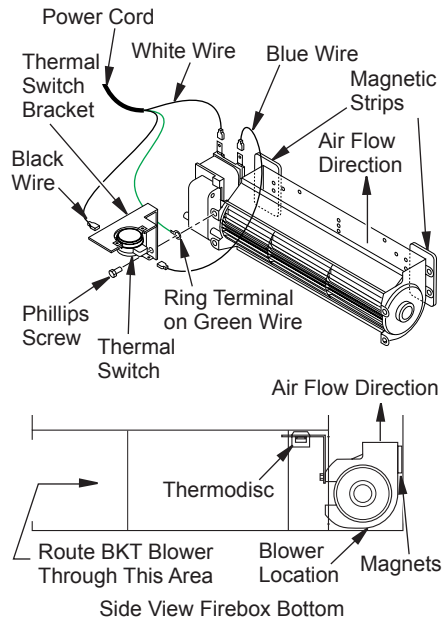

Figure 29 - Blower Model BKT
- Place green ground wire with ring terminal between bottom hole on thermal switch bracket and top ear hole on blower assembly. Insert the Phillips screw into all three pieces and tighten securely (see Figure 29).
- Place blower against lower rear wall of firebox outer wrapper with exhaust port directed upward and thermodisc positioned up near fireplace bottom. Thermodisc must be oriented near fireplace bottom as shown in Figure 29 in order to sense temperature and properly operate. Blower will be held in position against back wall by magnets incorporated onto the blower housing (see Figure 29).